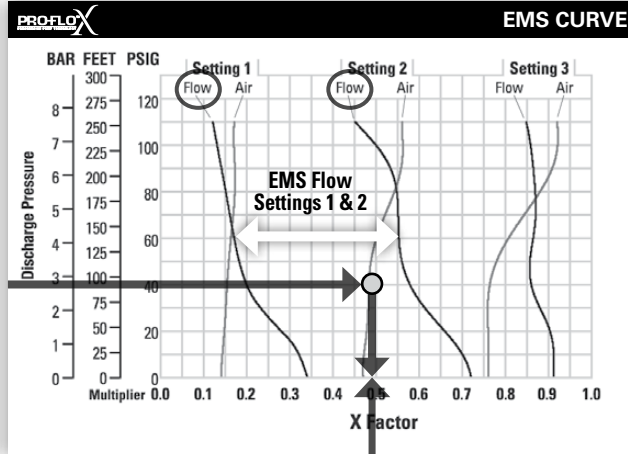

Figure 5
**Step 4: Determine EMS setting from the flow X Factor.** Plot the point representing the flow X Factor (0.49) and the application discharge pressure 2.8 bar (40 psig) on the EMS curve. This is done by following the horizontal 2.8 bar (40 psig) psig discharge pressure line until it crosses the vertical 0.49 X Factor line. Typically, this point lies between two flow EMS setting curves (in this case, the point lies between the flow curves for EMS setting 1 and 2). Observe the location of the point relative to the two curves it lies between and approximate the EMS setting (Figure 5). For more precise results you can mathematically interpolate between the two curves to determine the optimal EMS setting.